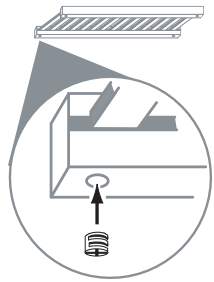

FIG. 3.2
3. Select (C) shelf and insert cam nuts at location (Fig. 3.2)